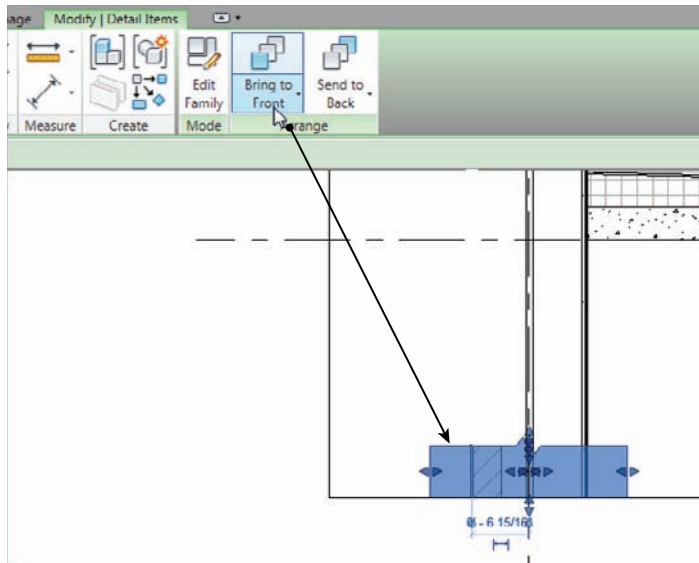

FIGURE 12.8 Click the Bring To Front button on the Modify | Detail Items tab after selecting the break line.
1. If the break line is behind the masking region, select the break line, as shown in Figure 12.8.
2. On the Modify | Detail Items tab, click the Bring To Front button (see Figure 12.8).